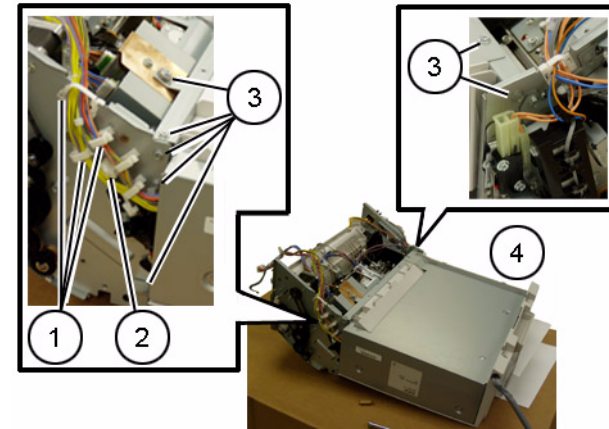

Figure 4 Removing the Stacker Tray
12. Remove the Stacker Tray (Figure 4):